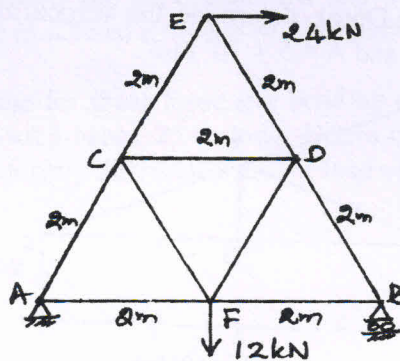

Fig.Q2(b)
b. Analyze the loaded truss shown in Fig.Q2(b) by method of joints and tabulate the results neatly.